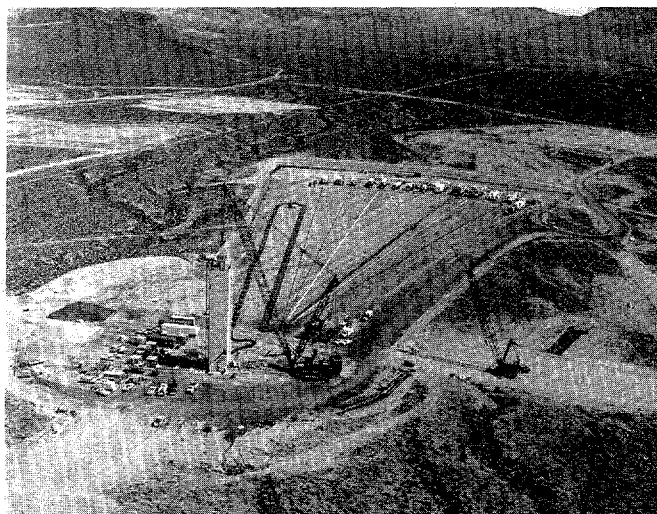

Fig. 3
- The layout of the ground-zero complex is determined. This plan must consider the required electrical cables, power sources, buildings, towers, cranes, emplacement hardware, and stemming (hole-filling) material. Figure 3 shows the device firing and recording facilities near ground zero, the many cables leading from the hole, and a large crane for lowering the rack into the hole.